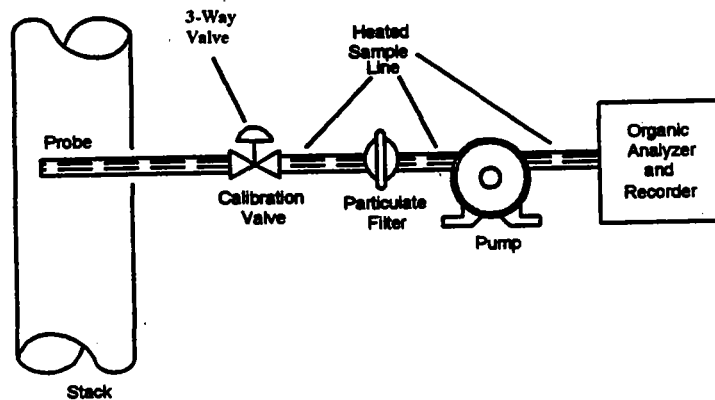

Figure F25A-1. Organic Concentration Measurement System.
1. Introduce zero gas and high-level calibration gas at the calibration valve assembly (see Figure F25A-1). Adjust the analyzer output to the appropriate levels, if necessary.